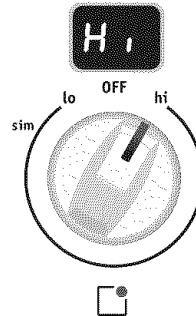

Fig. 2
2. Push in and turn the surface control knob in either direction to the desired setting using the ESEC digital display window for the desired setting (Fig. 2). Turn the knob to adjust the setting if desired. Start most cooking operations on a higher setting and then turn to a lower setting to finish cooking. Each surface element provides a constant amount of heat at each setting. A glowing red surface heating area extending beyond the bottom edge of the cookware indicates the cookware is **too small** for the surface heating area.